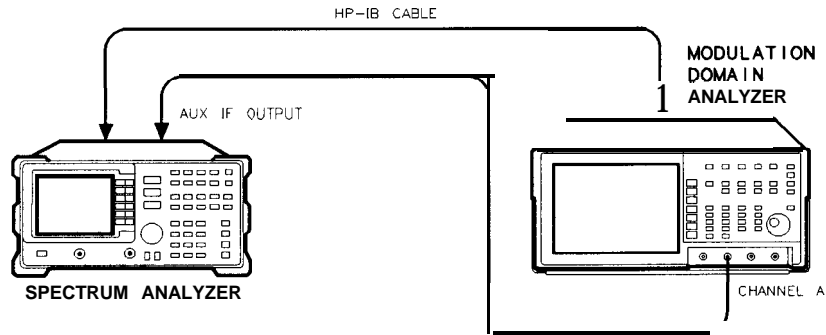

Figure 2-13. Equipment Setup
- 1 Connect a cable from the AUX IF OUTPUT connector (located on the rear panel of the spectrum analyzer) to channel A of the HP 53310A. See Figure 2-13. (The spectrum analyzer is used as an RF down converter and controller for this measurement.)
- 2 Connect an HP-IB cable from the spectrum analyzer to the HP 53310A. See Figure 2-13.